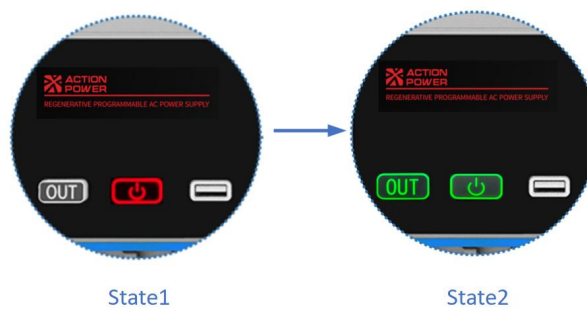

Figure 29 Reset Procedure Diagram
Step 1: The Power/Reset Button indicator light turns red and the Status Display Area displays the protection status. See Figure 29 Status 1.
Step 2: Briefly press the Power/Reset Button. The Output Button Indicator will begin to flash. When both the Power/Reset Button Indicator and the Output Button Indicator turn green, and the Status Display Area changes from protection state to standby state, the reset operation is complete. See Figure 29 State 2.